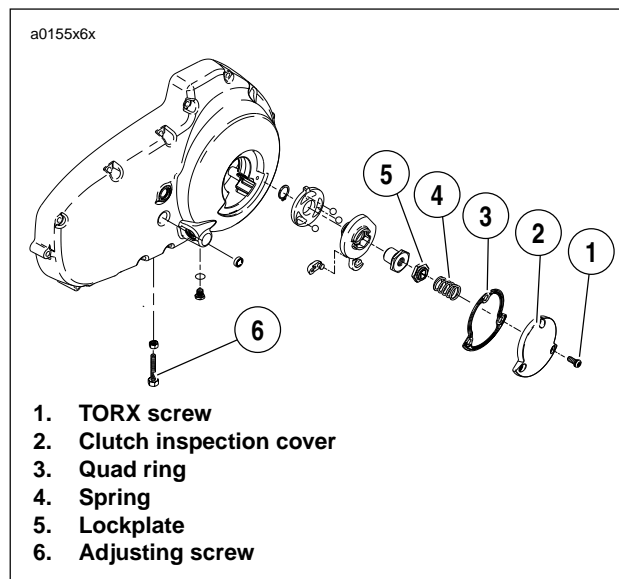

Figure 1-13. Clutch Release Mechanism
4. See Figure 1-13. Remove three TORX screws with washers (1) from clutch inspection cover (2). Remove clutch inspection cover from primary cover.
Quad ring removed from primary cover for illustrative purposes only in Figure 1-13.
10. See Figure 1-13. Install clutch inspection cover using three TORX screws with washers. Tighten in a crosswise pattern to 84-108 **in-lbs** (9.5-12.2 Nm).